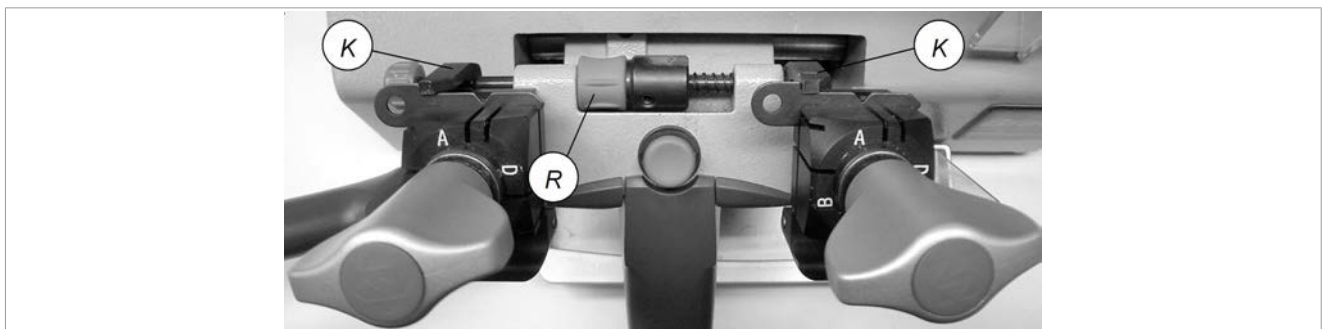
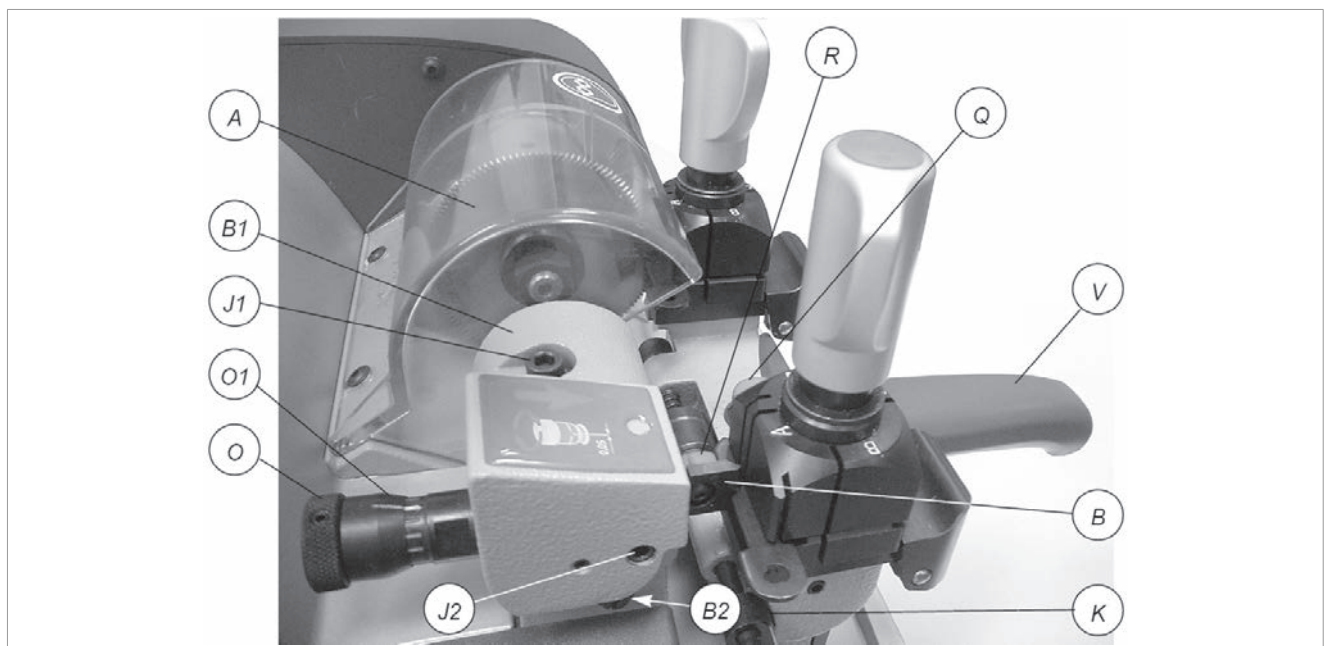

Fig. 13
Fig. 17
- 1) Spegner l'interruttore generale (C) per compiere l'operazione in sicurezza e rendere impossibile l'avvio della fresa.
- 2) Place the adjusting key (provided) in the clamps (Fig. 13) with the notch facing the cutting tool and tracer point and proceed as follows:
- a) ensure that the keys adhere to the clamps and that the callipers (K) are in full contact with the stops.
- b) to take the callipers into contact with the keys, rotate the drum (R) towards you (away from you to return to the ideal position).
- 3) Release the carriage by lowering the knob (V) and pressing the push button (Q) right down (Fig. 17, page 16).
- a) loosen the screw locking the tracer point (J2) (Fig. 17, page 16).
- b) turn the knob (O) clockwise to move the tracer point forwards.
- c) turn the knob (O) anticlockwise to move the tracer point backwards (each mark on the graduated drum equals a variation of 0.05 mm).
- a) with one hand hold still the knurled part of the knob (O).
- 1) Turn off the master switch (C) to operate safely and prevent activation of the cutting tool.
- 2) Place the adjusting key in the clamps (Fig. 17) with the notch facing the cutting tool and tracer point and proceed as follows:
- a) ensure that the keys adhere to the clamp and that the callipers (K) are in full contact with the stops.
- b) to take the callipers into contact with the keys, rotate the drum (R) towards you (away from you to return to the idle position).
- 3) Release the carriage by lowering the knob (V) and pressing the push button (Q) right down (Fig. 17).
- 4) Move the adjusting key so that the notch comes into contact with the cutting tool (A) and tracer point (B).
- a) loosen the screw (J1) to move the tracer point (Fig. 17).
- 8) Lower the carriage by means of the handle (V) (it will engage automatically).